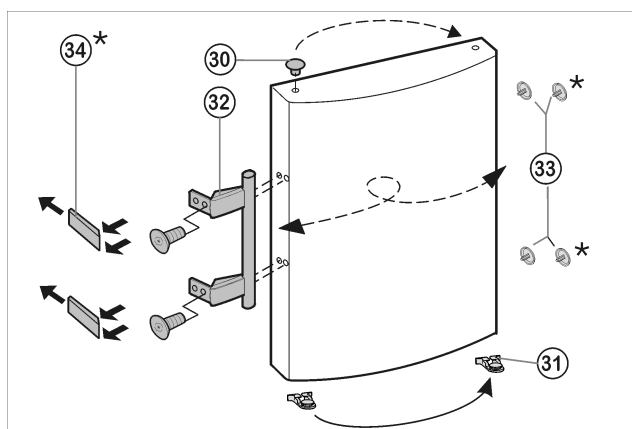

Fig. 8
- ▶ Pull the *Fig. 8 (30)* plugs out of the door bearing bushes and move them to the other side.
- ▶ Remove the door handles *Fig. 8 (32)*, plugs *Fig. 8 (33)* and pressure plates* *Fig. 8 (34)* and swap them over to the opposite side.